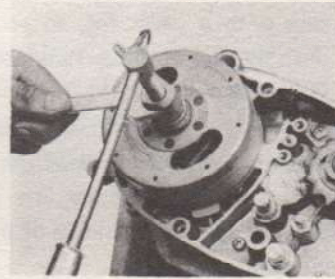

Fig. 3-24
2. Install the flywheel magneto puller in the threaded hole of the flywheel, and turn it to push the flywheel off the shaft. (Fig. 3-24)